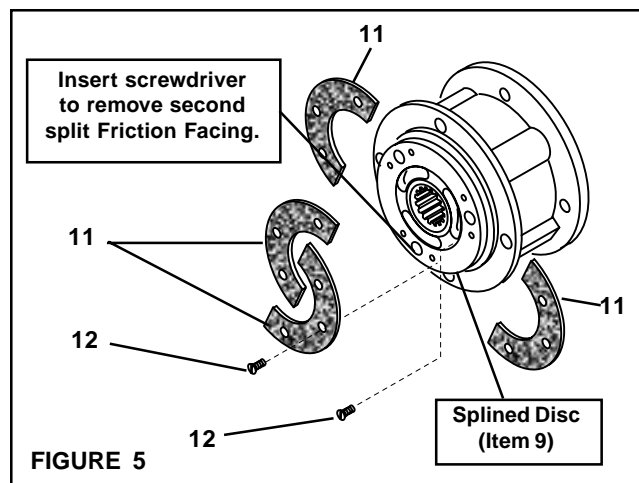

FIGURE 5
2. Remove the six old Flat Head Screws (Item 12) and the first old split Friction Facing (Item 11) (See Figure 5).
3. Align the holes in the Splined Disc (Item 9) with the Flat Head Screws (Item 12) that secure the second split Friction Facing (Item 11) (See Figure 5).
4. Remove the six old Flat Head Screws (Item 12) and the second old Friction Facing (Item 11) (See Figure 5).
7. Install the second new split Friction Facing (Item 11) and new Flat Head Screws (Item 12) (See Figure 5).